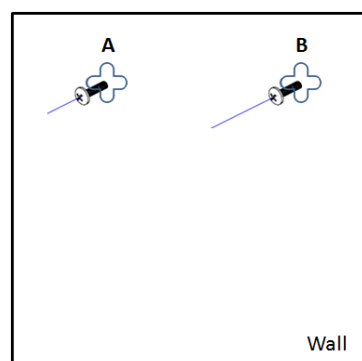

Figure 25. Drill two holes and install two screws for hanging purposes
Step 2. Drill Hole A & B and install screws for hanging purposes as shown in Figure 25.